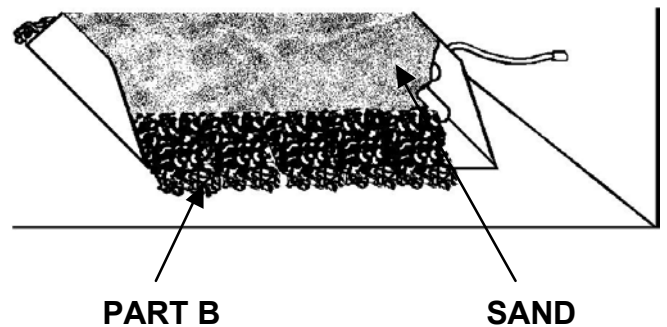

FIGURE 3
3. PART B Embers (rockwool) are placed over the media to simulate glowing embers. For best results, pinch off pieces of the Fire Embers the size of a dime and feather it out. Place as much as desired over the area the gas comes through. (See Figure 3)